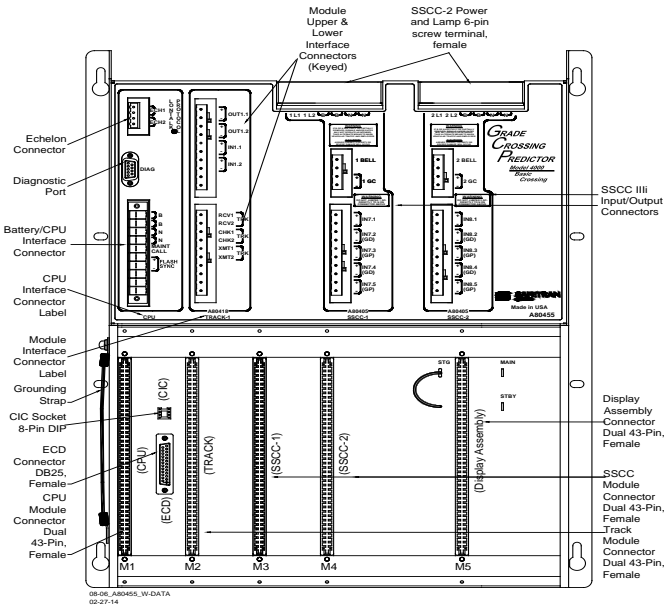

Figure 169: Common Chassis Component Locations
- The various 4000 GCP chassis encountered in the field will have the following similarities (see Figure 169):
- Chassis diagnostic port location, same as the DIAG (CP) port of the active CPU in dual units